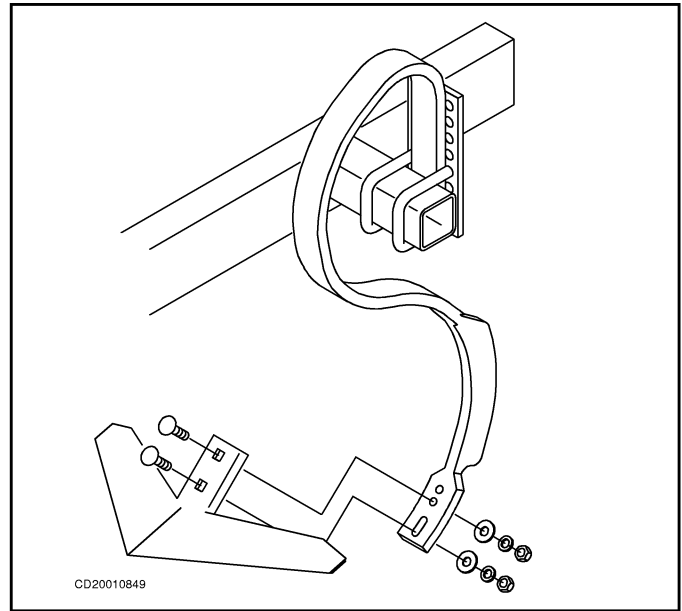

Figure 15 Straight Edge Tine
1. Fasten shovels to tine, using two 7/16 x 2" plow bolts with 1/2" heads, flat washers, lock washers, and hex nuts as shown in Figure 15.